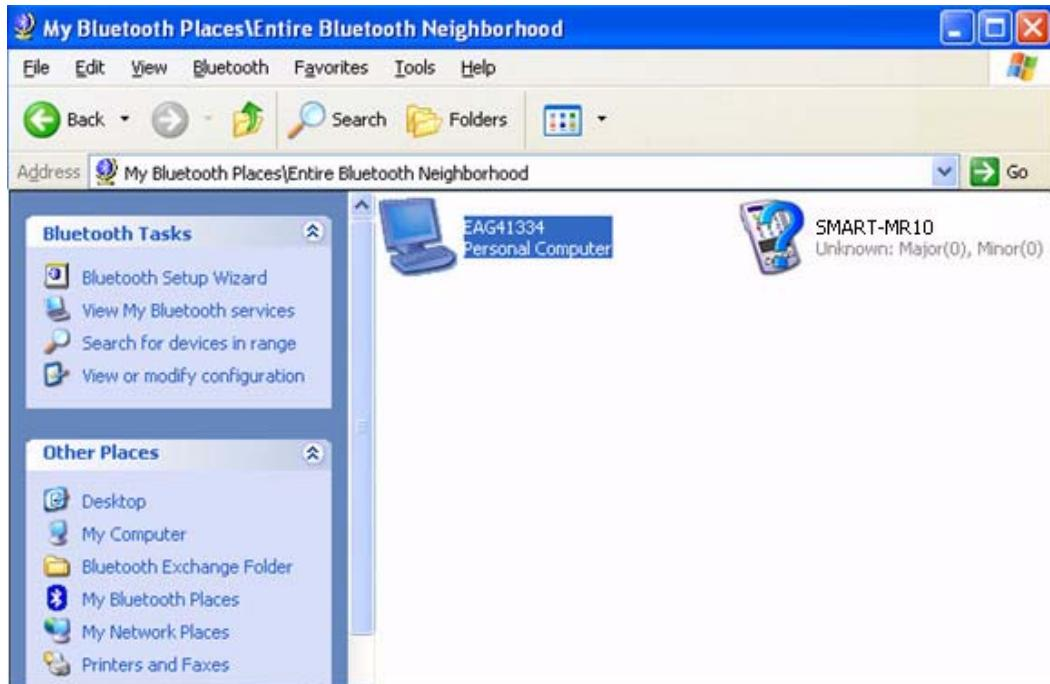

Figure 31: My *Bluetooth* Places Window
3. Click the *Search for devices in range* option from the *Bluetooth Tasks* side bar on the left of the *My Bluetooth Places* window. *Bluetooth*-enabled devices within range appear in the *Entire Bluetooth Neighborhood* folder, as shown in *Figure 31*.
1. Double-click the SMART-MR10 or SMART-MR15 device icon in the *Entire Bluetooth Neighborhood* window, as shown in *Figure 31*. The PC/laptop searches for available services. If *Bluetooth* is working properly, a COM port service appears.
2. Click the *Search for devices in range* option from the *Bluetooth Tasks* side bar on the left of the *My Bluetooth Places* window. *Bluetooth*-enabled devices within range appear in the *Entire Bluetooth Neighborhood* folder, as shown in *Figure 31* on page 77.